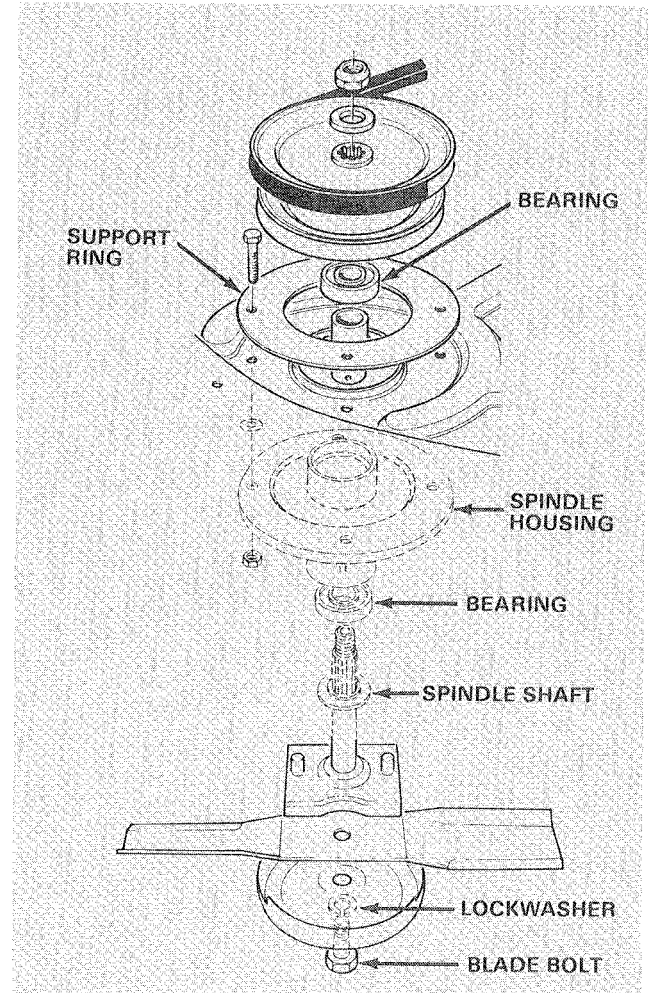

Figure 18
8. Slide pulley end of spindle assembly through hole in cutting unit. Mount spindle assembly in place with support ring (if applicable), capscrews and nuts (Fig. 18).